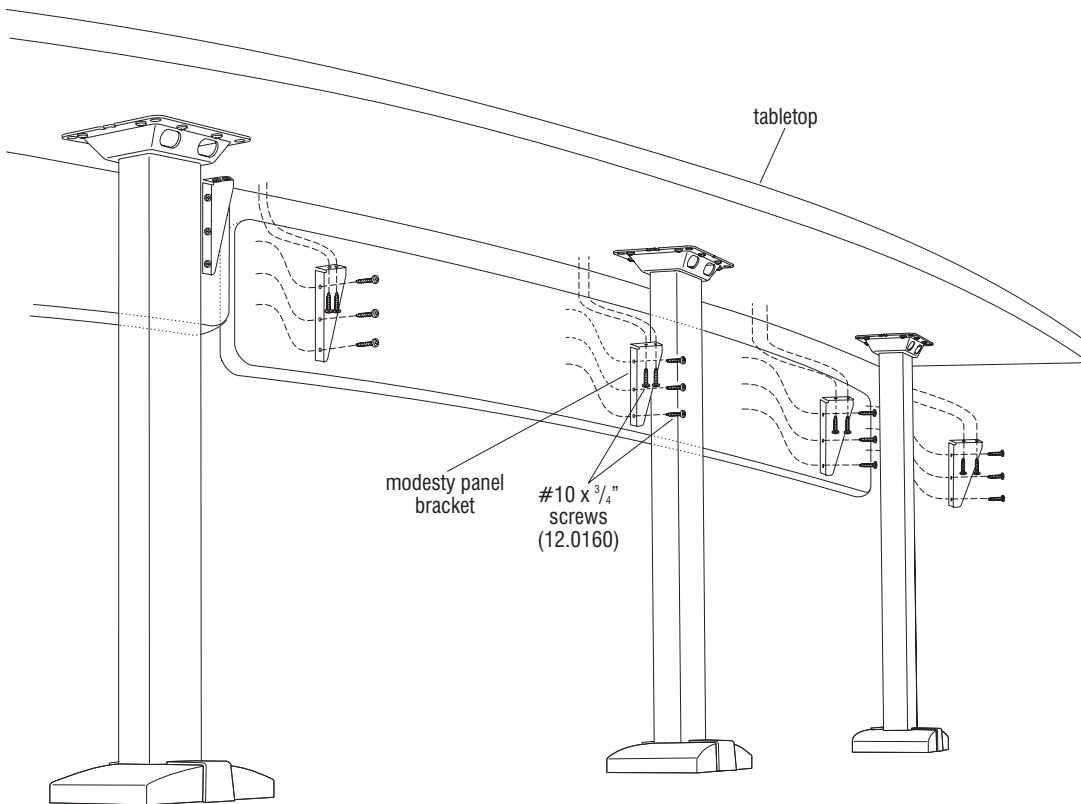

Figure 19
38. Per the space-planning layout and the identification numbers on the back sides of the modesty panels, lay the modesty panels out where they will be installed to the tabletops. Modesty panel lengths are undersized on each end, thereby creating a  $\frac{1}{2}$ " gap at the modesty panel joints, and a  $\frac{3}{4}$ " to  $2\frac{1}{2}$ " space at the end-of-run. Refer to the chart on the space-planning layout for the number of brackets required per modesty panel, and equally space the brackets along the panel. The two end brackets should be 2" from the edge of the panel. Begin assembly by installing the bracket to the tabletop first (Figure 19).
**Note:** Care must be taken when positioning the brackets to ensure they do not interfere with the tabletop mounting flanges. When the bracket is installed to the underside of the tabletop, the shorter flange of the bracket must be secured to the tabletop with two #10 x  $\frac{3}{4}$ " screws torqued to 50 in/lb. Mounting holes under tabletop must be pre-drilled with an  $\frac{1}{8}$ " drill bit to maximum depth of  $\frac{1}{2}$ ". Be sure that the longer edge (which will be secured to the modesty panel) is set back 1" from the front edge of the tabletop. After all brackets are secured to the tabletop, carefully lift the modesty panel into place and pre-drill holes in modesty panel with an  $\frac{1}{8}$ " drill bit to a maximum depth of  $\frac{1}{2}$ ". Secure each installed modesty panel bracket to the modesty panel with three #10 x  $\frac{3}{4}$ " screws torqued to 50 in/lb (Figure 19).